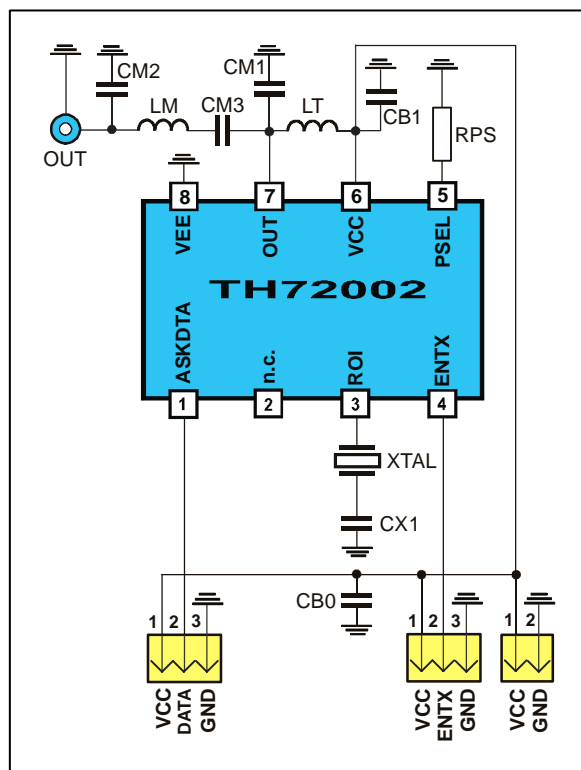

Fig. 17: Test circuit for ASK with 50 Ω matching network
- Data according to test circuit in Fig. 17